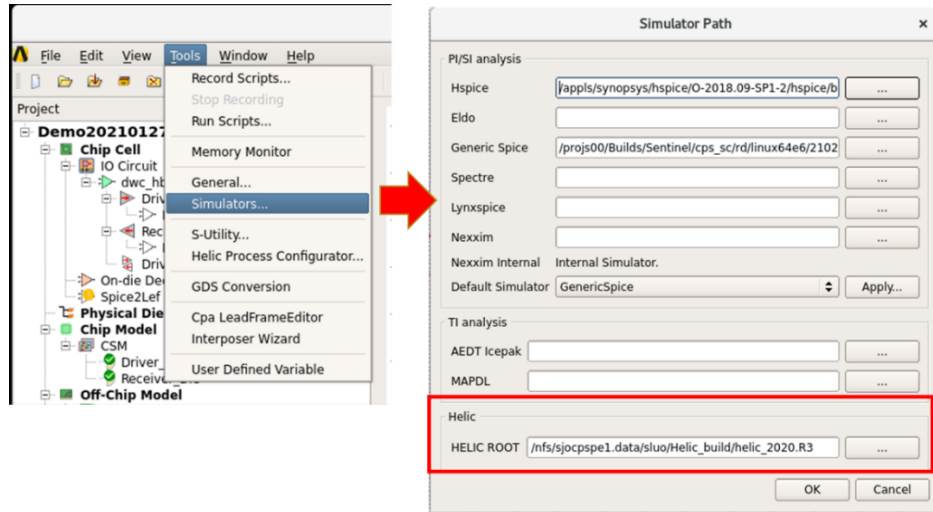

Figure 2 – Set Helic Root in CSM.
- First to set the Helic Root, menu bar **Tools** → **Simulators** → **HELIC ROOT** (Figure 2).